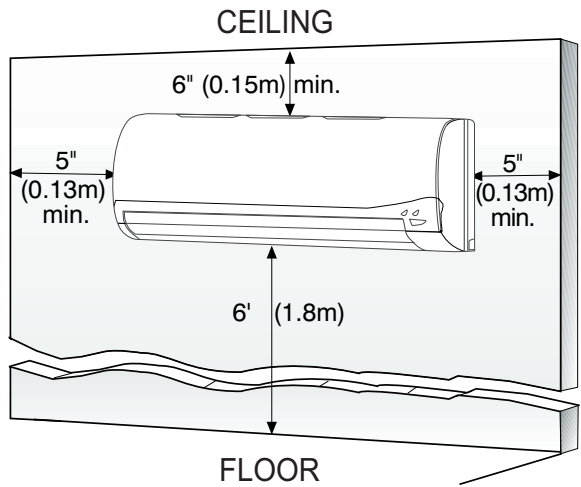

Fig. 7 – Indoor unit clearance
- A location which provides appropriate clearances as outlined in Fig. 7.